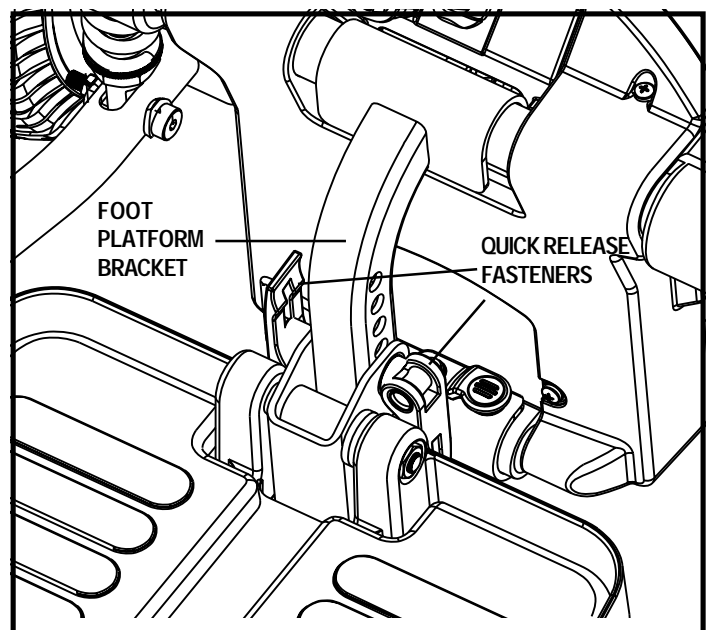
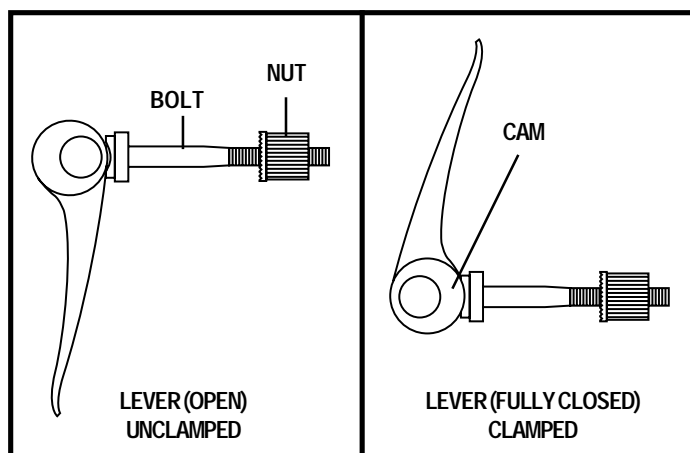

Figure 21. Foot Platform Adjustment
Figure 22. Quick Release Fasteners
1. Remove the quick release fasteners from the foot platform bracket. See figure 21.
The foot platform is attached to the power base with two quick release fasteners. See figure 21. Each quick release fastener consists of a bolt, a lever, and a nut. See figure 22. The lever has a cam on the end that allows it to clamp into place. The quick release fastener has two states: clamped and unclamped. When the lever is open, the quick release fastener is unclamped. When the lever is closed, the quick release fastener is clamped.